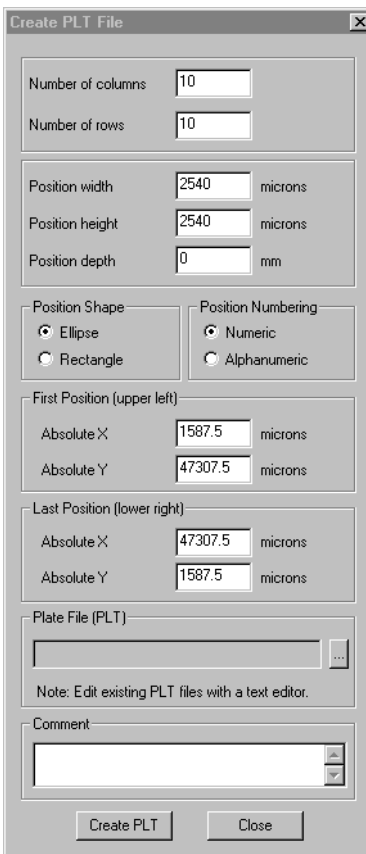

Figure 3-15 Create PLT File Dialog Box
3. In the Instrument Control Panel, select **Create PLT File** from the Tools menu to display the Create PLT File dialog box (Figure 3-15).